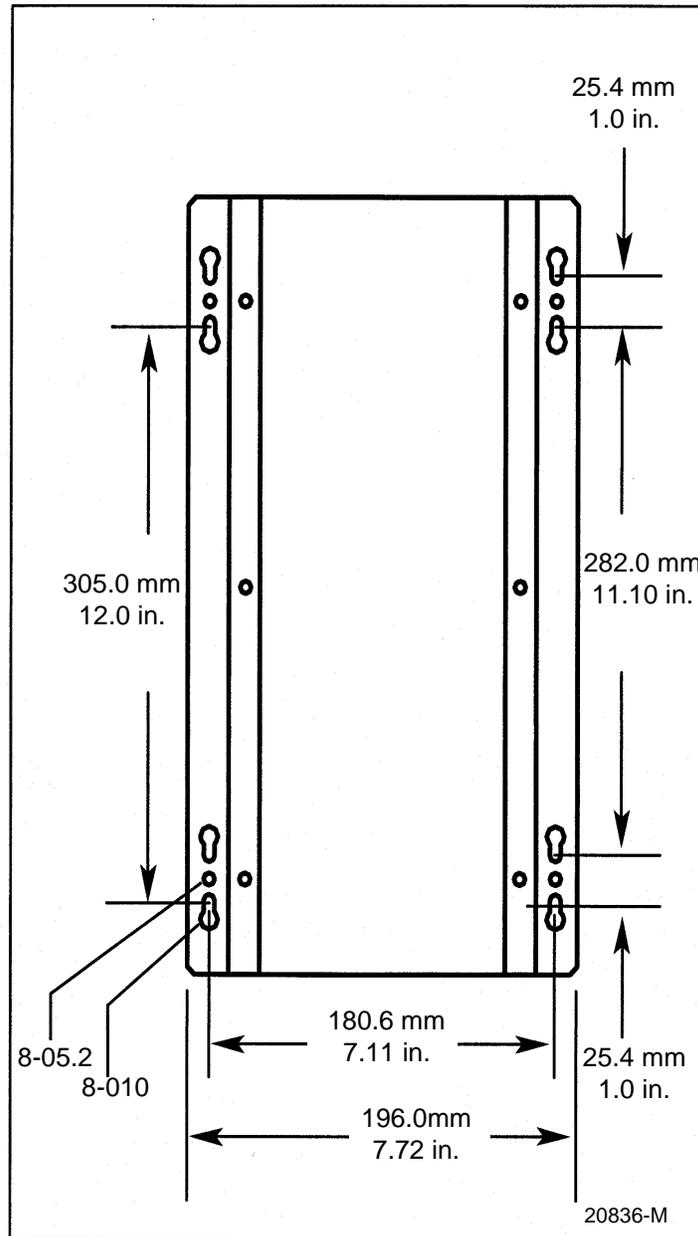

Figure 2 - AutoMax PC3000 Packaged Version Mounting Dimensions
You can mount the AutoMax PC3000 Packaged Version on a panel in an enclosure. Figure 2 shows the mounting dimensions of the AutoMax PC3000 Packaged Version.
- Step 1. Mark the locations of the bracket holes on the panel. Make sure to leave a space of about 22.9 cm (9 in.) next to the side of the chassis containing the network connection and serial ports. You need this space for attaching the cable connectors. Use figure 2 as a guide.